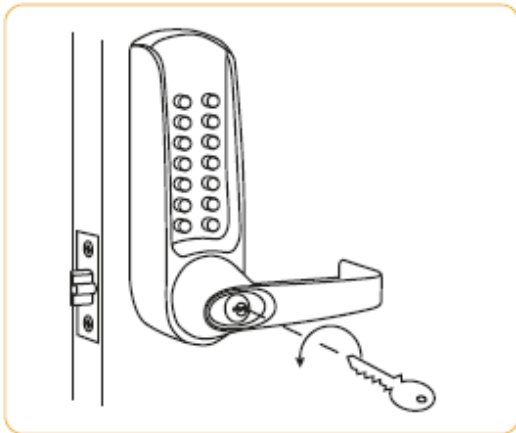

Fig 1 (Image shows right hand hung door)
2. Insert key and turn anticlockwise to stop for right hand hung doors, or clockwise to stop for left hand hung doors. Fig 1.